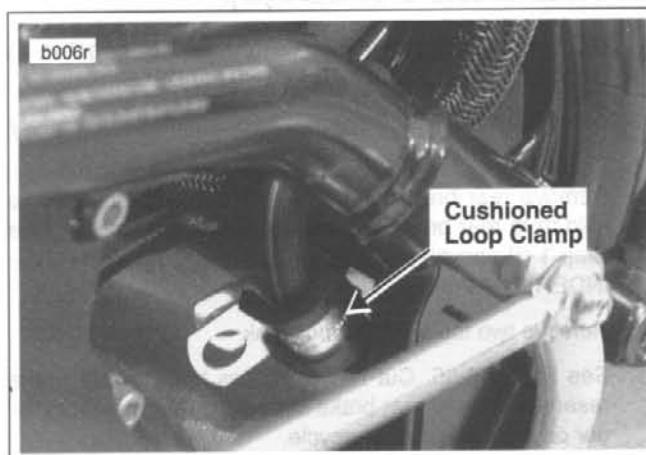

Figure 2-59. Loop Clamp Orientation Before Installation
5. See Figure 2-59. Install loop cushioned clamp to brake line and then to bolt side of tie bar fasteners. Loop clamp is oriented down and to the left. Install tie bar to frame with bolt, washer and loop cushioned clamp on lower side of tie bar and **new** locknut on upper side of tie bar. Tighten to 30-33 ft-lbs (40.7-44.7 Nm).